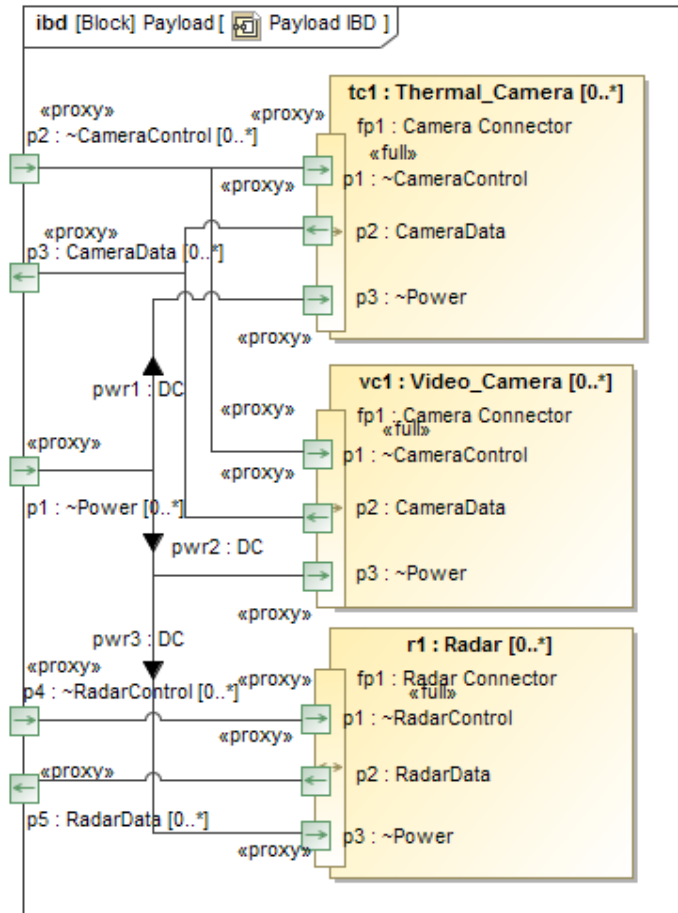

Figure 11 Payload IBD, final stage
- The final diagram should appear similar to Figure 11.